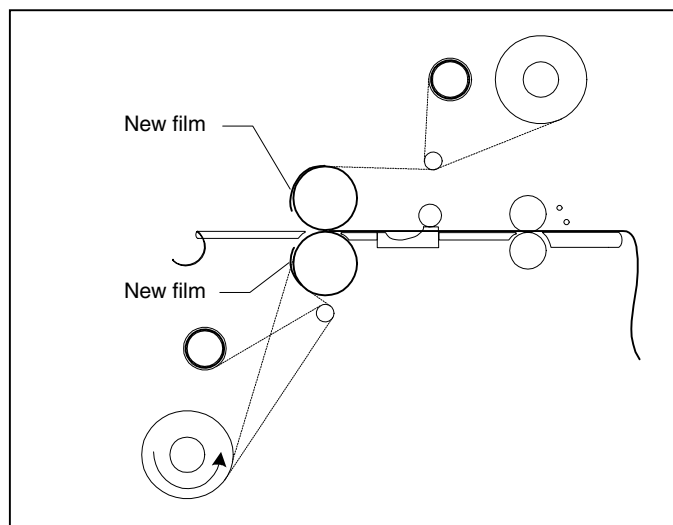

Fig. 32
6. Tack the new film to the existing film on the heat rollers. For PSA film, attach the release liner to the rewind tube (Figure 32).